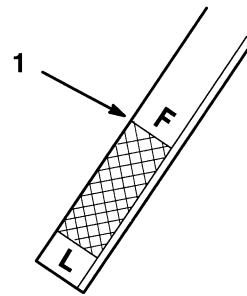

**Figure 32**
3. Clean around the transaxle dipstick (Fig. 32) so dirt cannot fall into the filler hole and damage the transaxle.
4. Pull out the dipstick and wipe the metal end clean (Fig. 32).
5. Slide the dipstick fully into the filler tube (Fig. 18). Pull the dipstick out and look at the metal end. When transaxle is cold oil should be at the "Full" line on the dipstick (Fig. 32).